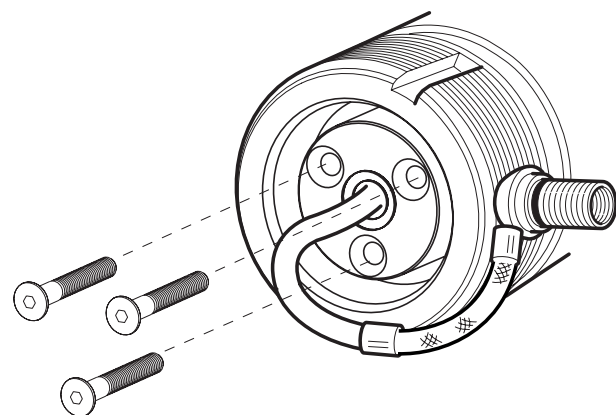

Figure 15a. Alternate style rotary joint assembly
- Insert the three fasteners into the rotary joint assembly and fasten to the spindle plug (figure 15a). Tighten the fasteners to 45 ±5 in. lbs. (5 ±½ N•m) of torque.